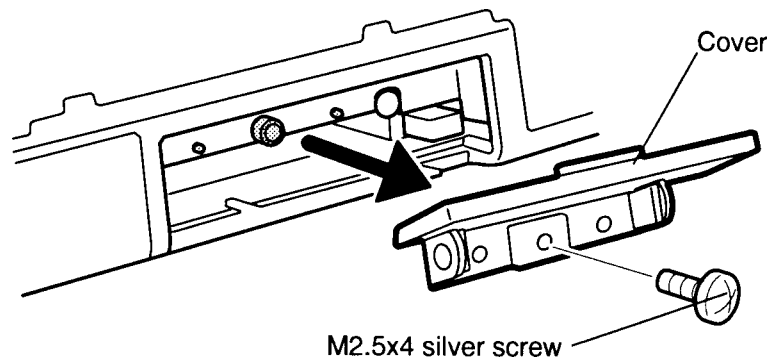

Figure 4-28 Removing the PCMCIA slot cover
To remove the T4850CT's base assembly, follow the steps below and refer to Figures 4-28 through 4-31.
3. On the right side of the computer, open the **cover** to PCMCIA slot 2 and remove the **M2.5x4 silver screw** securing the cover (Figure 4-28). Set the cover aside.
7. Secure the **PCMCIA slot 2 cover** with **one M2.5x4 silver screw** and close the slot cover (Figure 4-28).